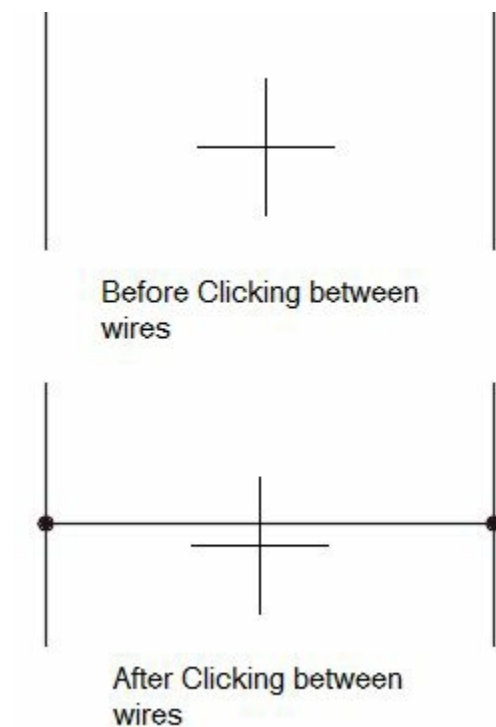

Figure-56. Rung connected
- Click between the two parallel wires. A rung will be created connecting both the wires; refer to Figure-56.